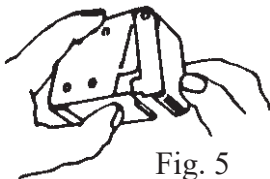

Fig. 5
- Open the bracket cover by pressing the bottom, and pull the hinged safety locking cover open (fig. 5). Each bracket is designed to be mounted with two screws.